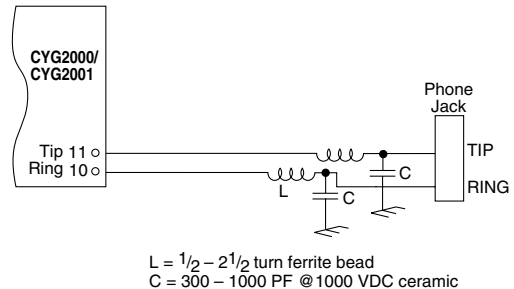

Figure 10. EMI Considerations
- Include a provision on your PCB design for a $1/2$ turn ferrite bead and capacitor in your layout from the Tip and Ring terminals of the DAA to the telephone jack as shown in figure 10. This LC network will form a low pass filter that will roll off high frequencies. The decision to populate the board with these components will be based on the results of the radiated emissions coming out of the telephone line during FCC testing.